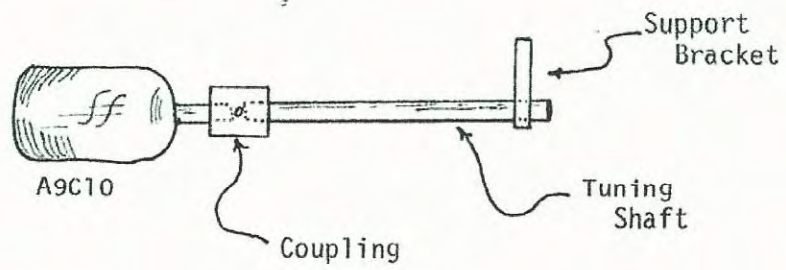

Figure 2B
- c. The completed A9C29 tuning control will be shown in Figure 2B, and the small pin on the 16" rod will hit the rear support post to prevent the A9C10 paddle from getting closer than approximately 1" to the PA tube.